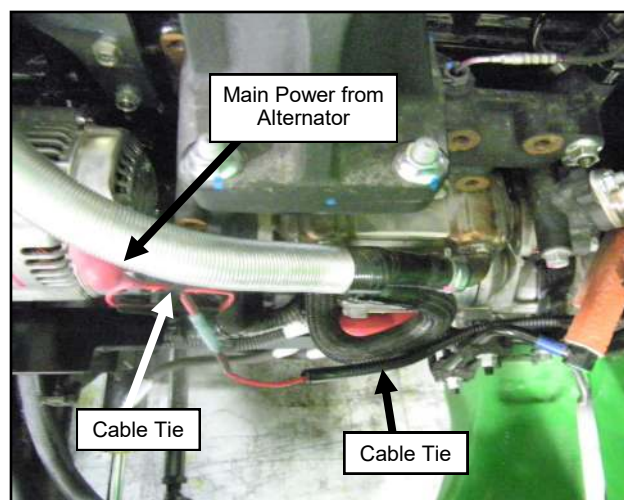

Fig. 16.12 (Secure Wire Harness)
16.12 Unbolt the main power cable attached to the alternator and re-secure with the ring terminal on the fuse harness. See Figure 16.12.